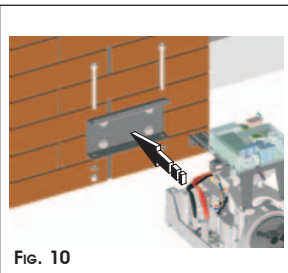

Fig. 10
- ④ Position the operator on the bracket you have just secured, using two M8x100 screws and the relevant nuts - supplied (Fig.10).
- ⑤ Set the operator for manual operation, see paragraph 7.